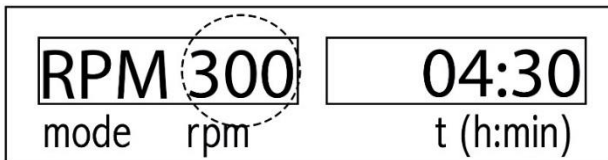

Figure 7: Operating Mode A – setting the speed
- By pushing the right rotary knob again, the speed variable will be flashing and the speed value will be set by rotating the other (in the left side) rotary knob. (in figure 7 The dashed line is a flashing variable in the display). In the end, by pushing the right rotary knob, all the settings will be set.